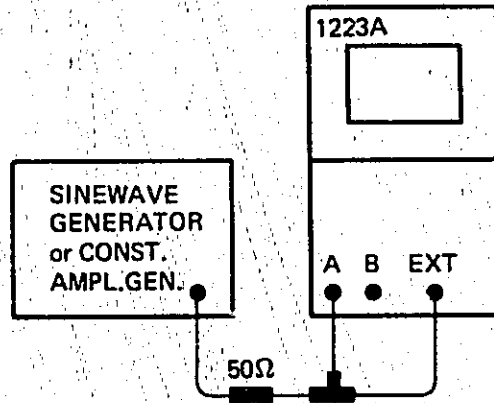

Figure 4-7. Low Frequency/High Frequency Trigger Test Setup.
1. Connect the Sinewave Generator to the 1223A as shown in Figure 4-7 and set the 1223A controls as follows: